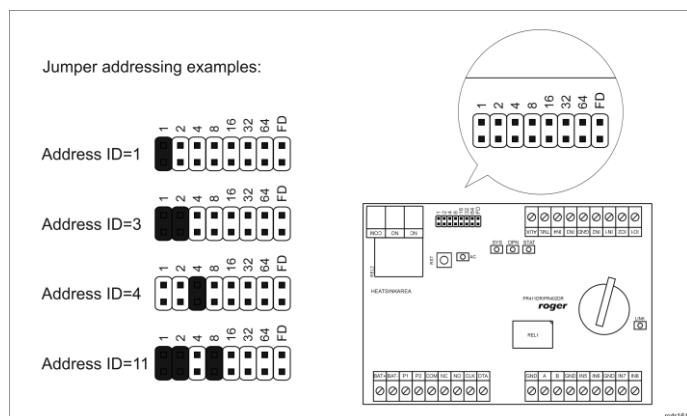

Fig. 1 Addressing with jumpers
2. Place jumper on FD contacts (fig. 1).